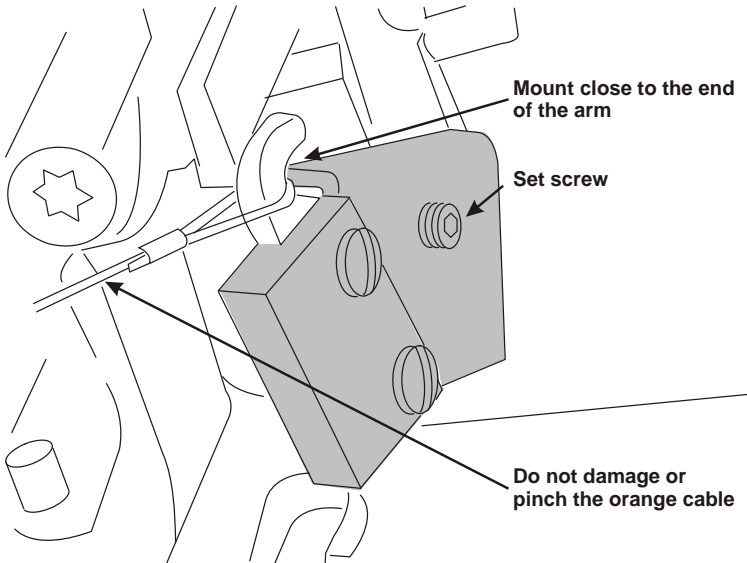

Figure 4.11
- Apply Blue Loctite 242 to the set-screw and mount the magnetic actuator to the transmission arm under the dash (Figure 4.11).